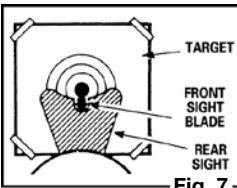

Fig. 7
- The airgun is correctly aimed when the front sight blade is positioned exactly in the center of the notch of the rear sight. The top of the front sight blade should be even with the top of the notch in the rear sight. The bulls-eye should appear to rest on the top of the front sight. (Fig. 7)